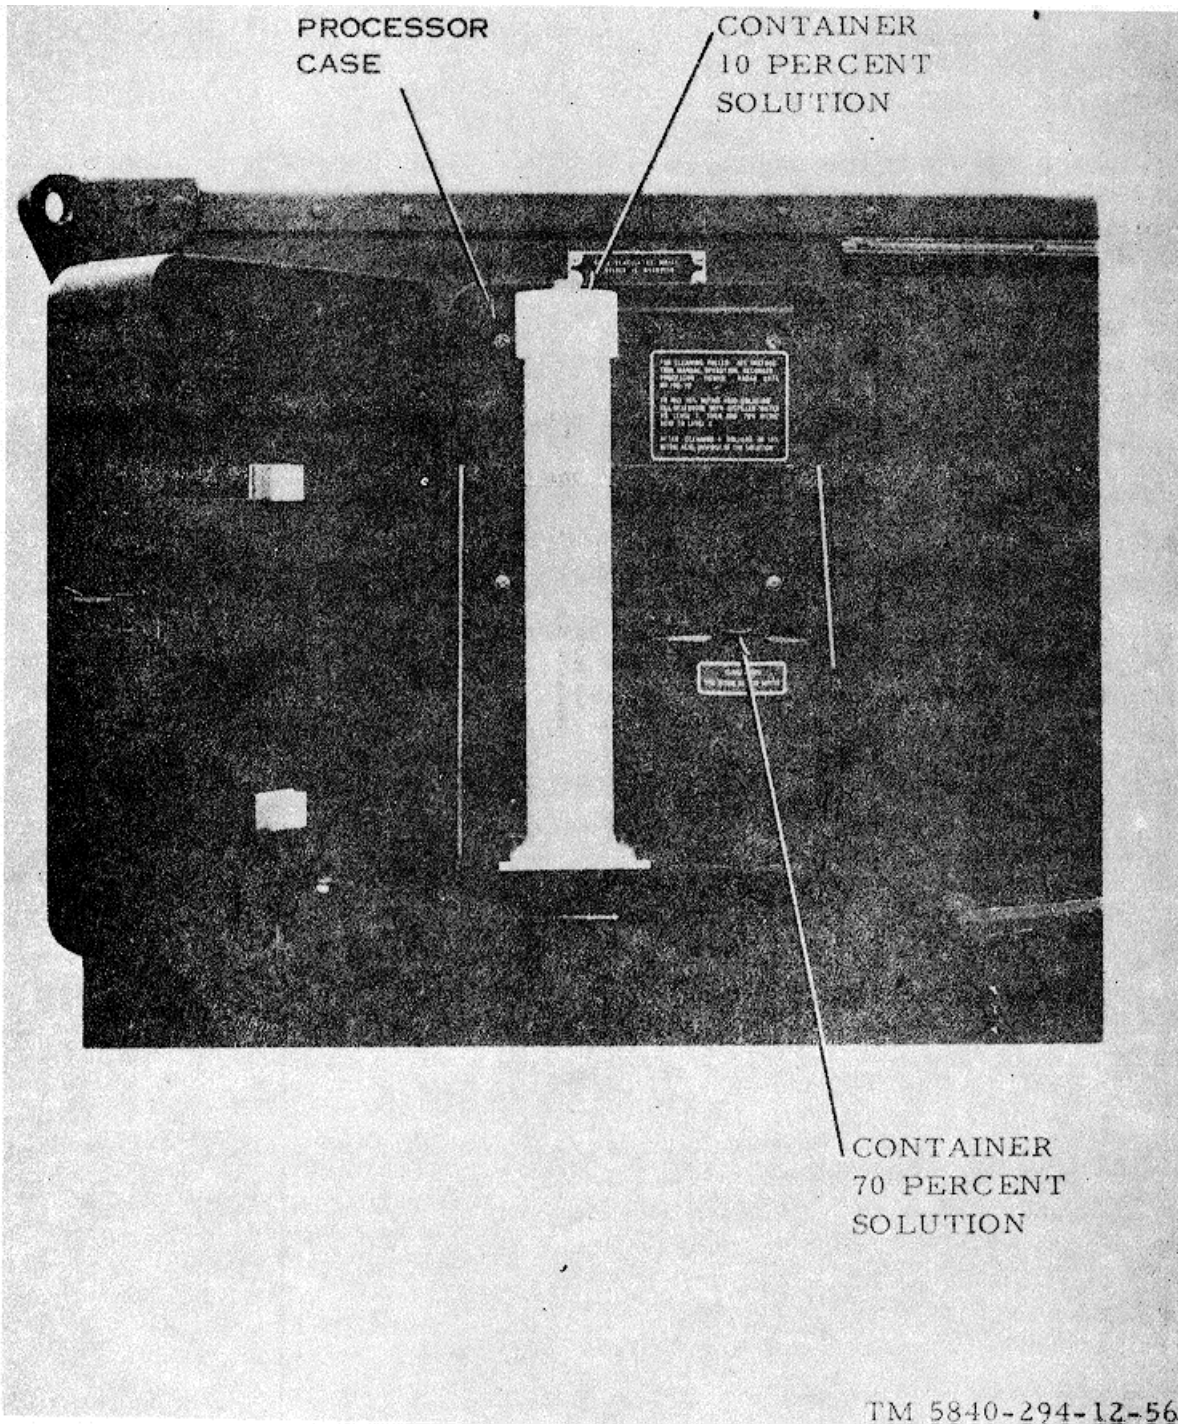

Figure 1-30. Nitric acid solution containers.
i. *Nitric Acid Containers* (fig 1-30). Two nitric acid solution containers are stored in the processor case at the rear of the shelter (fig. 1-4). The 10-percent solution container, a cylindrical, nonmetallic container with cap and a